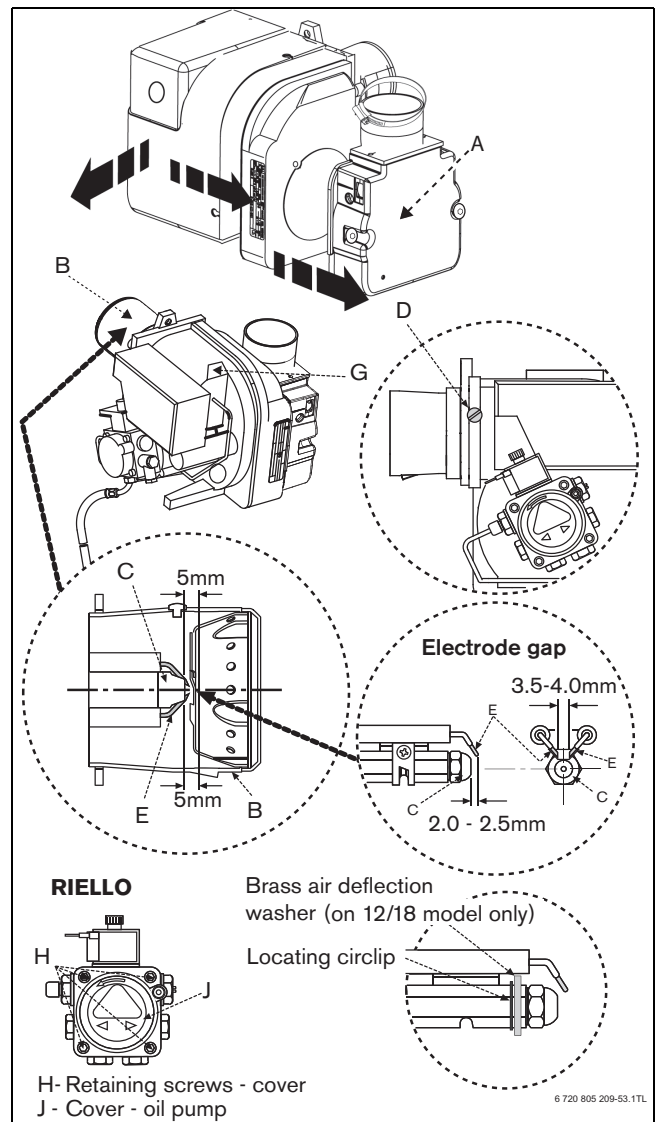

Fig. 67 Burner detail
After refitting check that the electrode gaps are correct, as shown in figure 67.
- ▶ Check the electrodes [E] and reset if necessary as shown in figure 67.